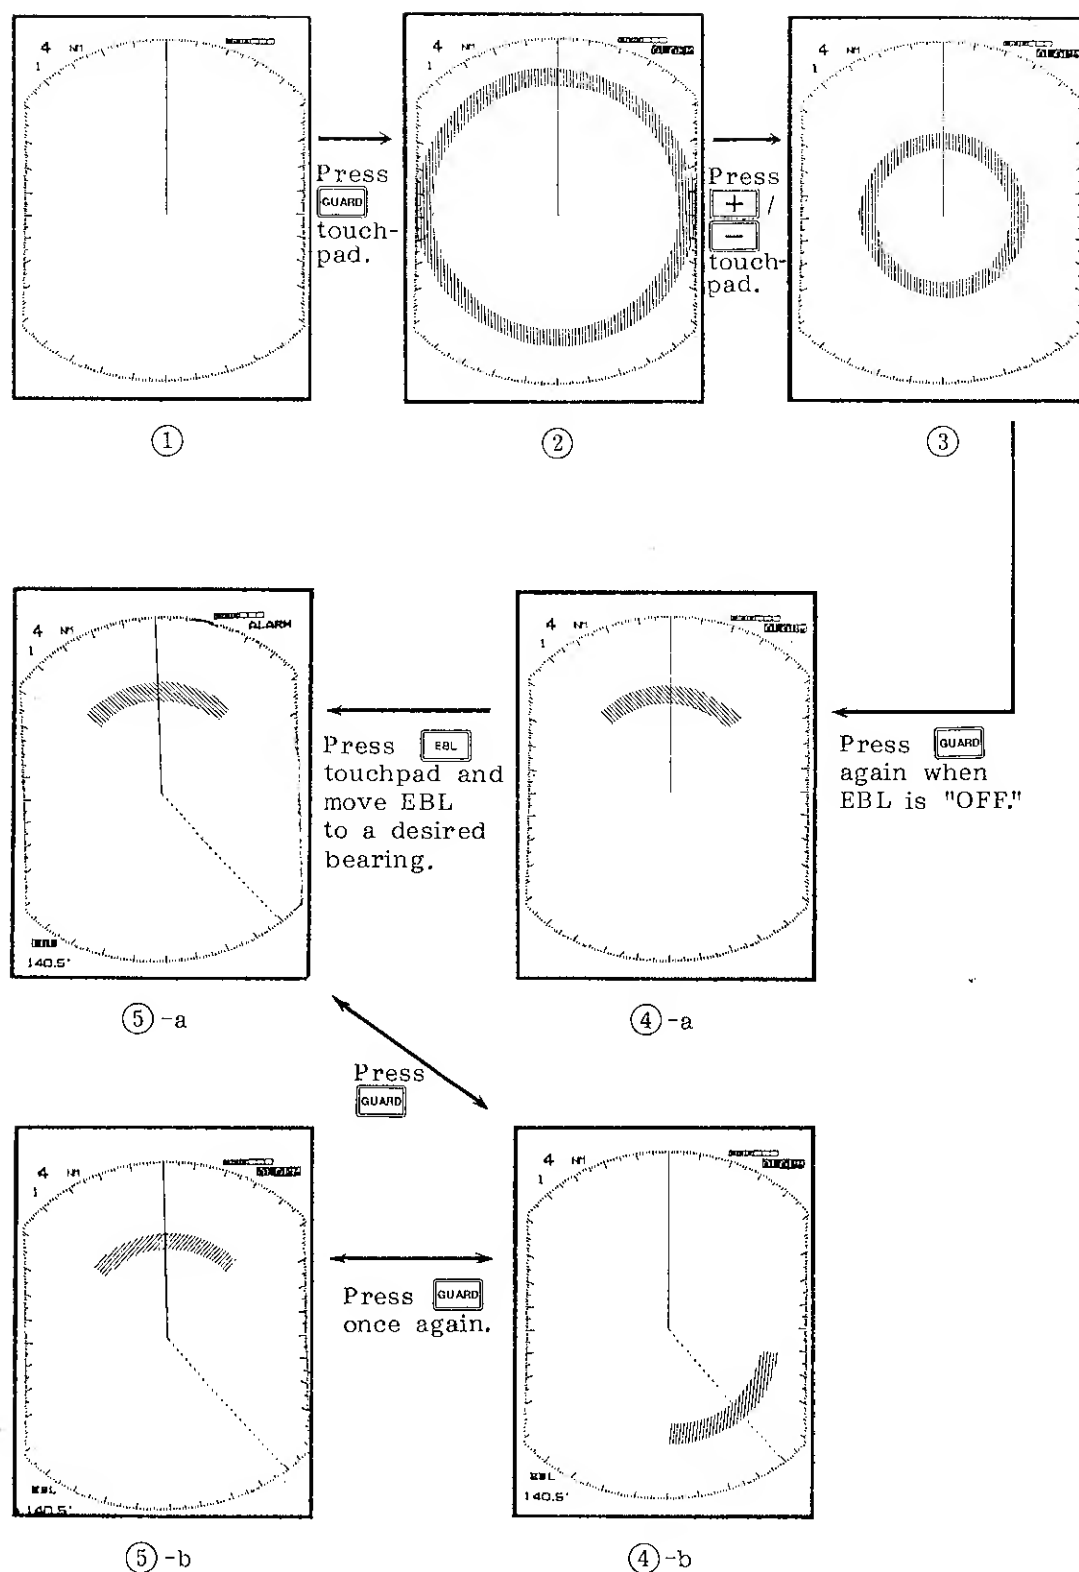

Fig.2-9 Setting the Alarm
- 1. Press the **GUARD** touchpad once. The indicator "ALARM" (framed with a white light) appears on the upper right-hand side of the screen and a 360° doughnut-shaped guard ring is displayed (Fig.2-9②). Table 2-2 shows the initial guard area to be displayed.
- 2. The distance to the guard zone may be changed by the **+/-** touchpad. See Fig.2-9③. If you want to set a 90° sector alarm, 45° on either side of the heading mark or the EBL, proceed to step 3.
- 3. Press the **GUARD** touchpad again and the guard zone changes to a 90° fan-shaped sector, bisected by the heading mark. See Fig.2-9④-a.
- 4. If you want to change the guard zone location, press the **EBL** touchpad followed by **+/-** touchpads to set the EBL on the bearing desired for the center of the guard zone. See Fig.2-9⑤-a.
- 5. Press the **GUARD** touchpad and the guard zone drawn up in step 4 is brought up on the screen (Fig.2-9④-b.).